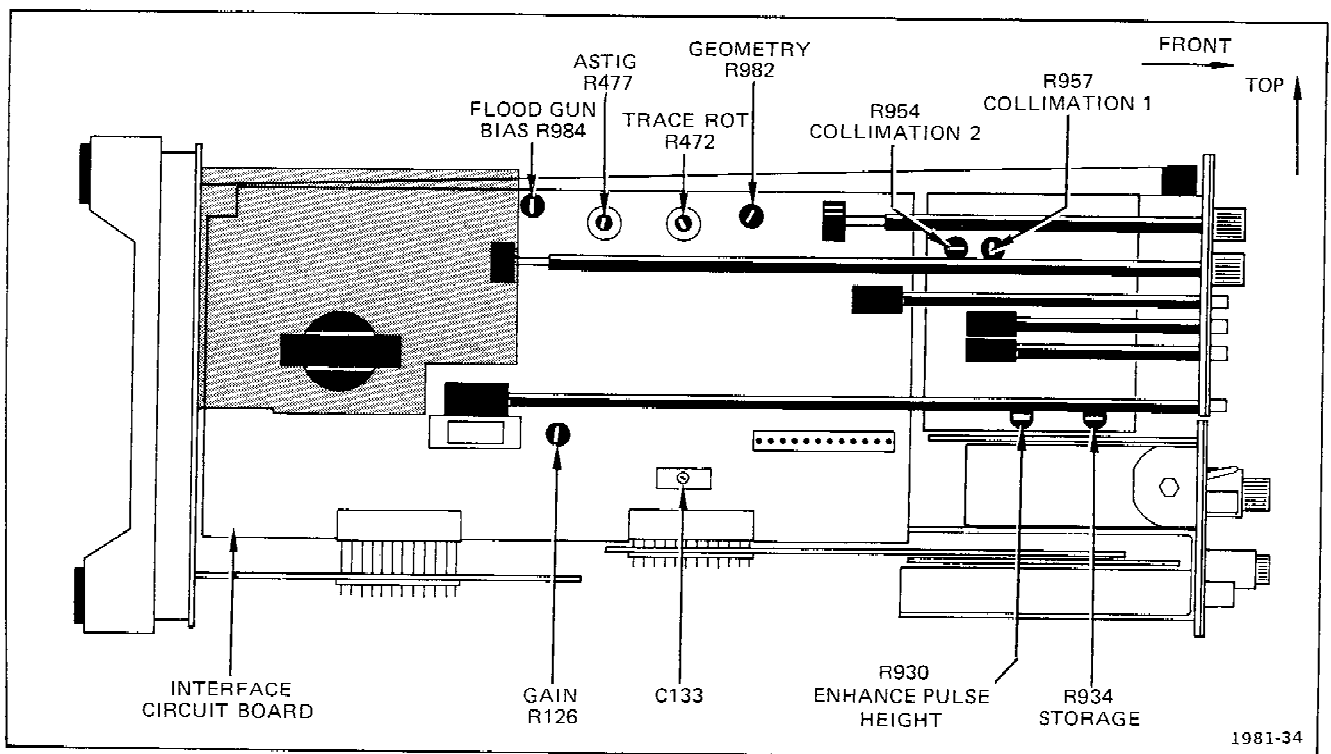

Fig. 4-2. Interface board adjustment locations.
e. ADJUST—Geom, R982 (see Fig. 4-2) for best alignment of markers with the vertical graticule lines.
e. ADJUST—R984 (see Fig. 4-2), Flood Gun Bias, counterclockwise until shadows appear in corners, then turn it  $10^\circ$  further clockwise.
f. Rotate R957 (see Fig. 4-2), Collimation 1, fully counterclockwise.
h. Rotate R954 (see Fig. 4-2), Collimation 2, fully counterclockwise.
p. ADJUST—R934 (see Fig. 4-2), Storage Level, as necessary, for no breaks and maximum contrast over center eight divisions, while storing and erasing single sweeps.
b. Refer to Fig. 4-2 for location of adjustments in the remainder of this step. If storage circuitry has had major repairs or if misadjustment of controls is suspected, pre-set R984, R934, R957, and R954 (also R930 for SN B011467-up) to mid-range; otherwise, leave them as previously set and proceed with part c.
b. Set Gain, R126 (see Fig. 4-2), to physical midrange.
f. Adjust Gain, R126 (see Fig. 4-2), so trace aligns with third graticule line above center horizontal graticule line.